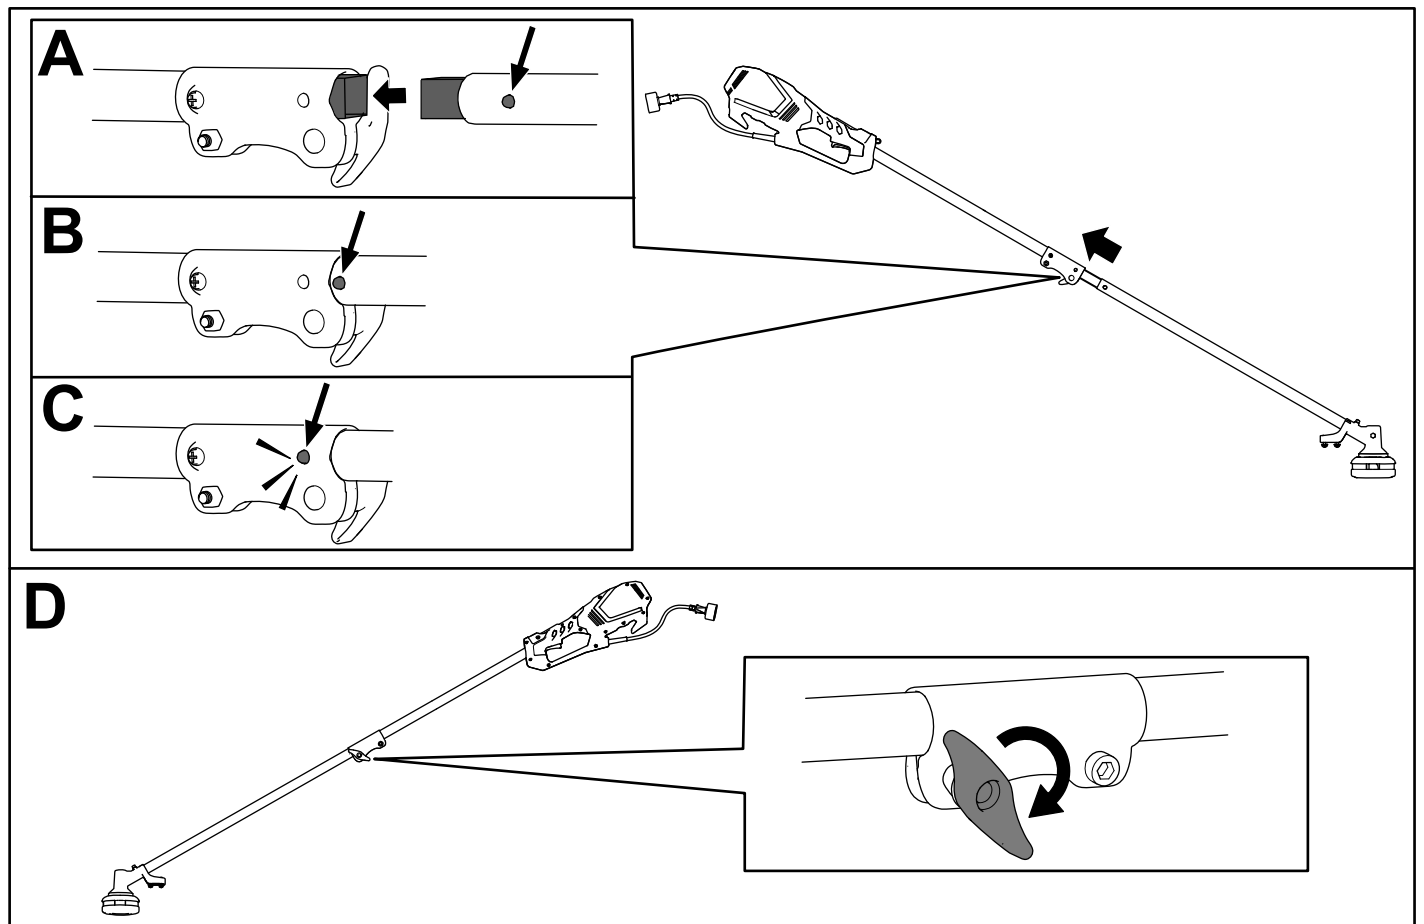

Figure 1
1. Install the square shaft of the string trimmer attachment into the square shaft of the power head (A of Figure 1).
2. Align the locking button on the lower shaft with the slotted hole on the upper shaft and slide the 2 shafts together (B and C of Figure 1).
Note: The locking button clicks into the slotted hole when the shafts are secured (C of Figure 1).
3. Using the screw-handle, tighten the screw on the shaft connector until it is secure (D of Figure 1).